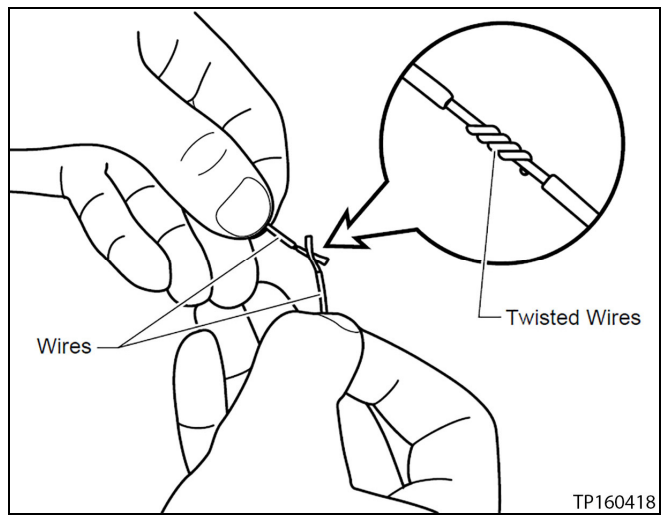

Figure 16
15. Twist together the two wires (see Figure 16 and 17).